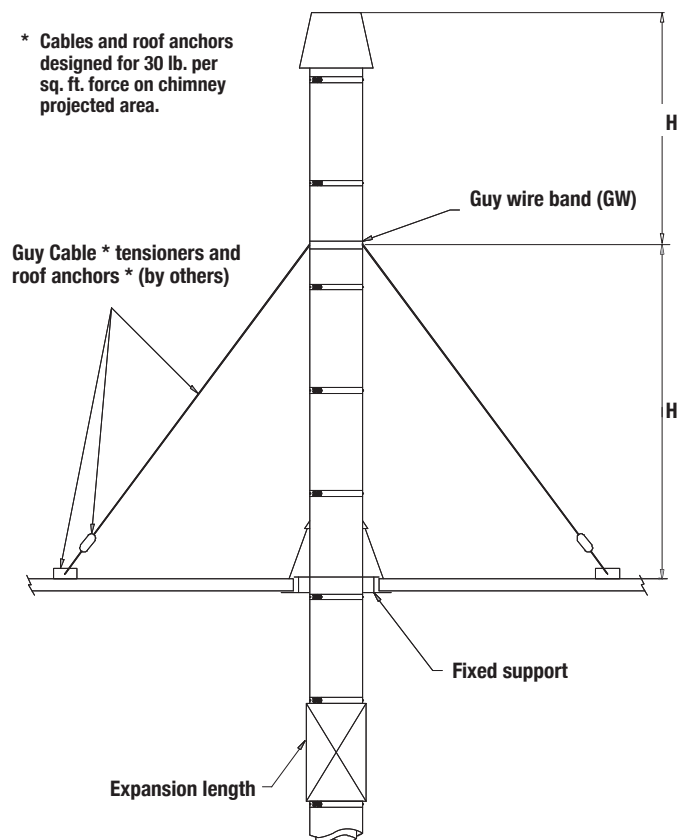

Figure 35 - Guy Wire
4. To minimize the effect of thermal expansion, good practice implies installing a fixed support and an expansion length at the roof level (see **Figure 35** 'guy wire').